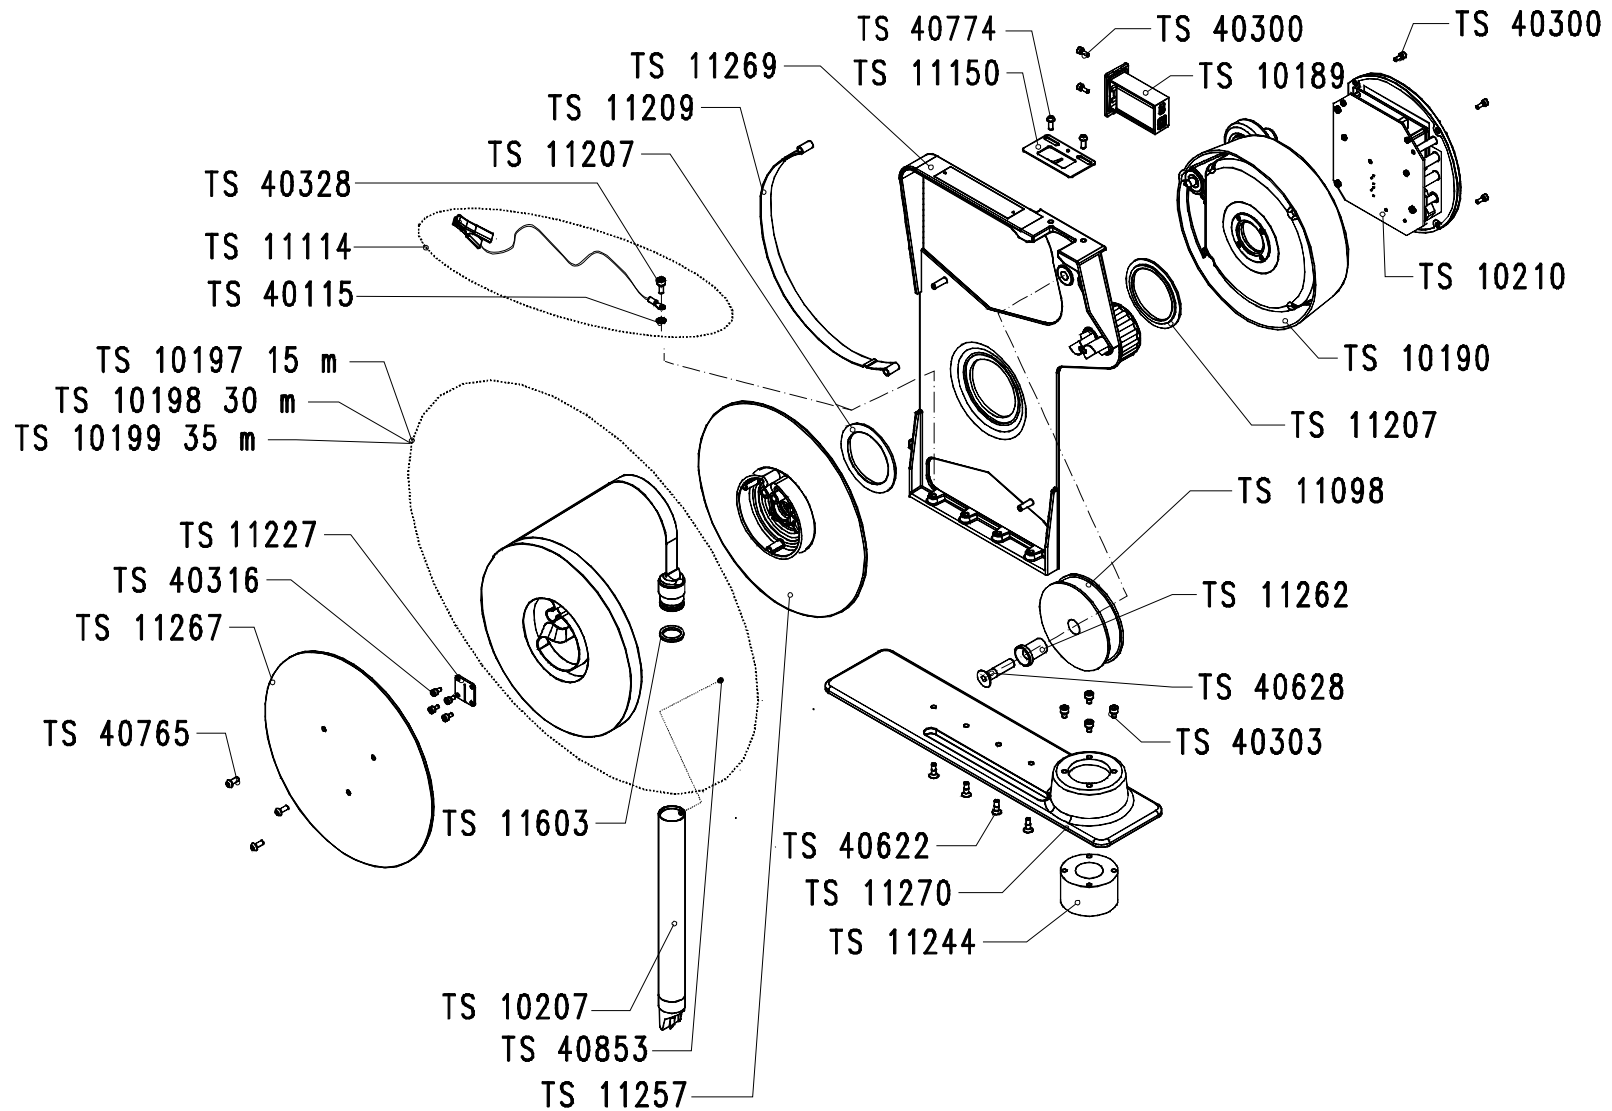

Figure 11-1 : general assembly HERMetric UTImeter Otex standard version, list of the main spare parts
- Figure 11-1 : general assembly HERMetric UTImeter Otex standard version, list of the main spare parts